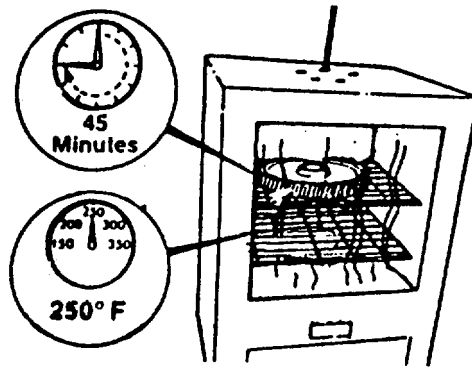

FIGURE 4-32. Heating Spur Gear.
- d. Lubricate the camshaft (5) surface with Lubriplate 105.
- e. Heat the spur gear (1) in an oven at 250 °F (121°C) for 45 minutes as shown in FIGURE 4-32.